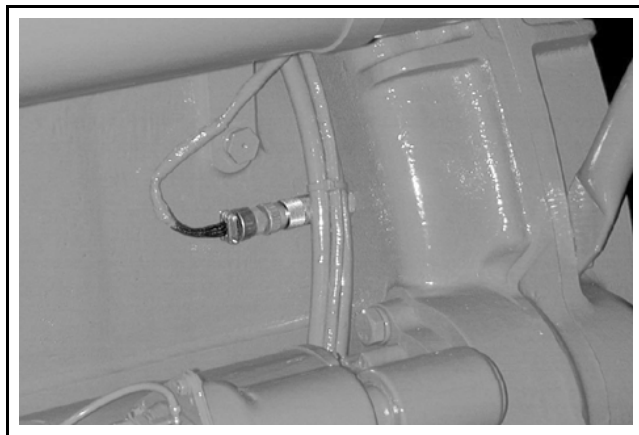

Figure 1.10-8 Magnetic Pickup – Flywheel Housing
Another magnetic pickup is used to sense 36 reference holes in the flywheel (see Figure 1.10-8). This magnetic pickup signals to the ECU: (1) the angular position of the crankshaft and (2) engine speed (rpm).